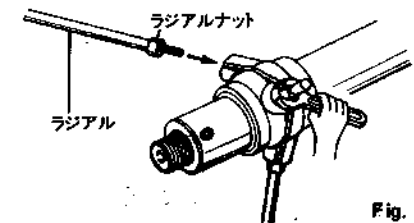

Fig. 1
- 3) After fixing the element at element joint bracket, connect upper and lower outershell with outershell joint bracket as shown in Fig. 1.